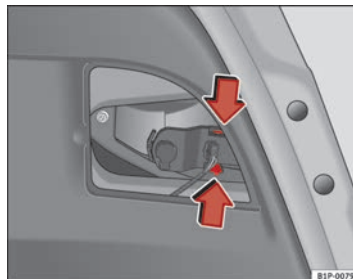

Fig. 172 Removing the bulb holder
- Take the bulbholder out pressing on the securing pins and extract it outwards ⇒ fig. 172.